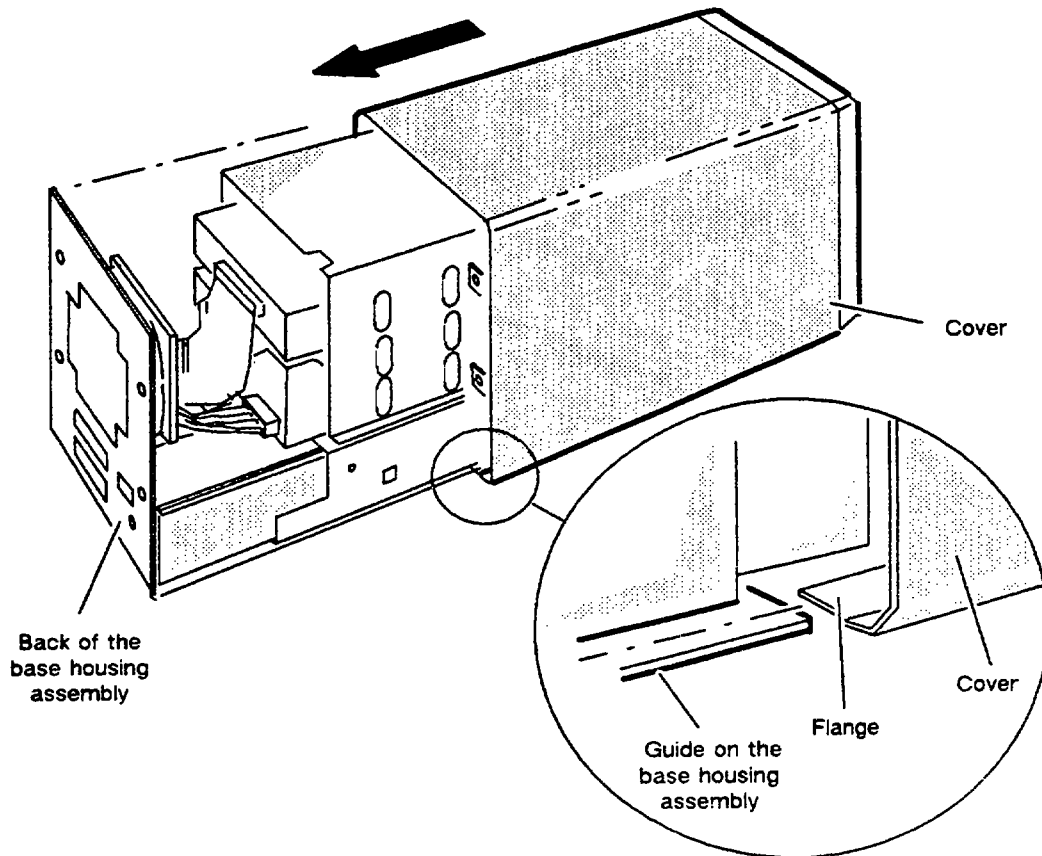

Figure 3-2 Reinstalling the Cover
1. Position the flanges on the cover between the guides on the base housing assembly, as shown in Figure 3-2.